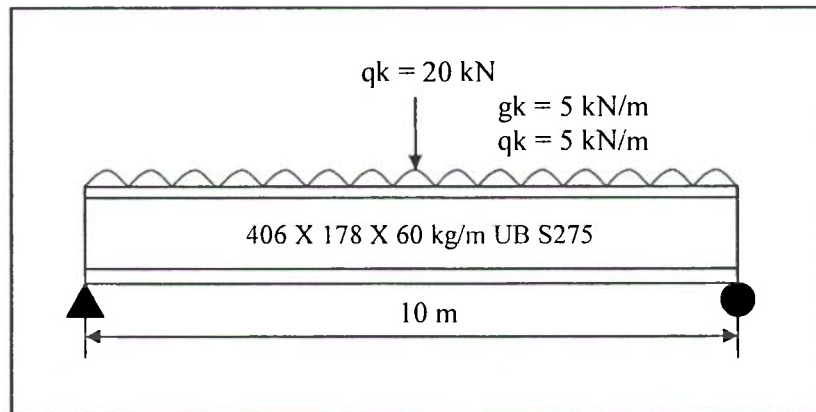

Figure Q5: Simply supported steel beam
- Q5 A simply supported steel beam shown in Figure Q5 supports uniformly distributed characteristic dead and imposed loads of 5 kN/m each as well as a characteristic imposed point load of 20 kN at mid span. The beam is fully restrained along its length. Use the given data as follow: